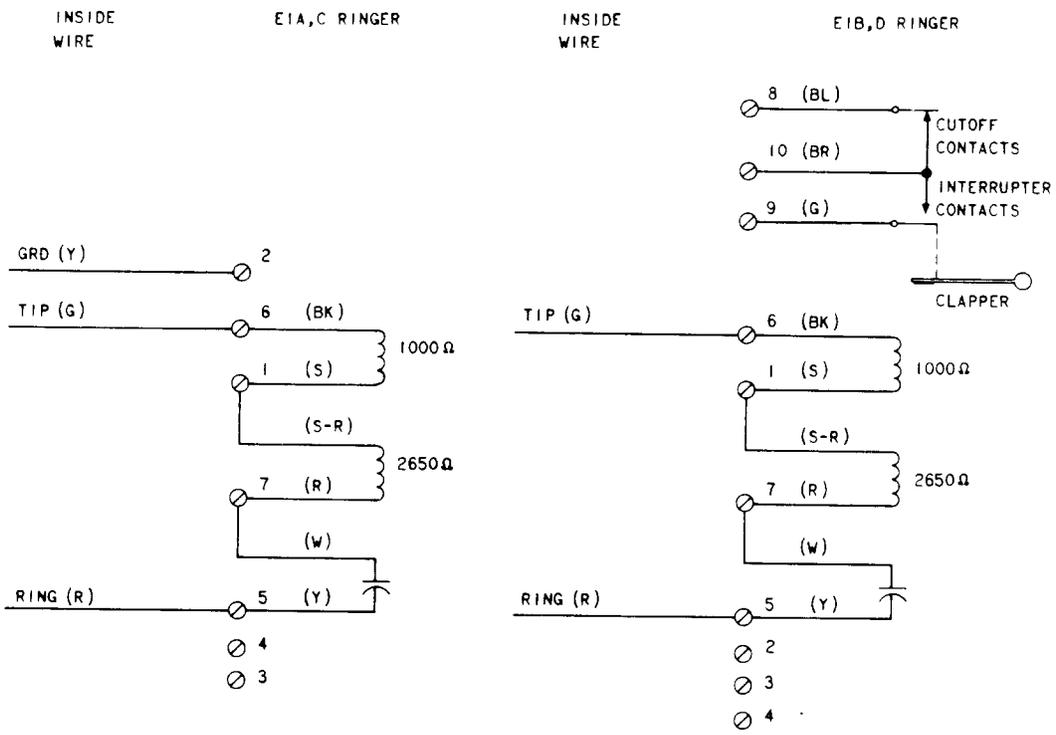
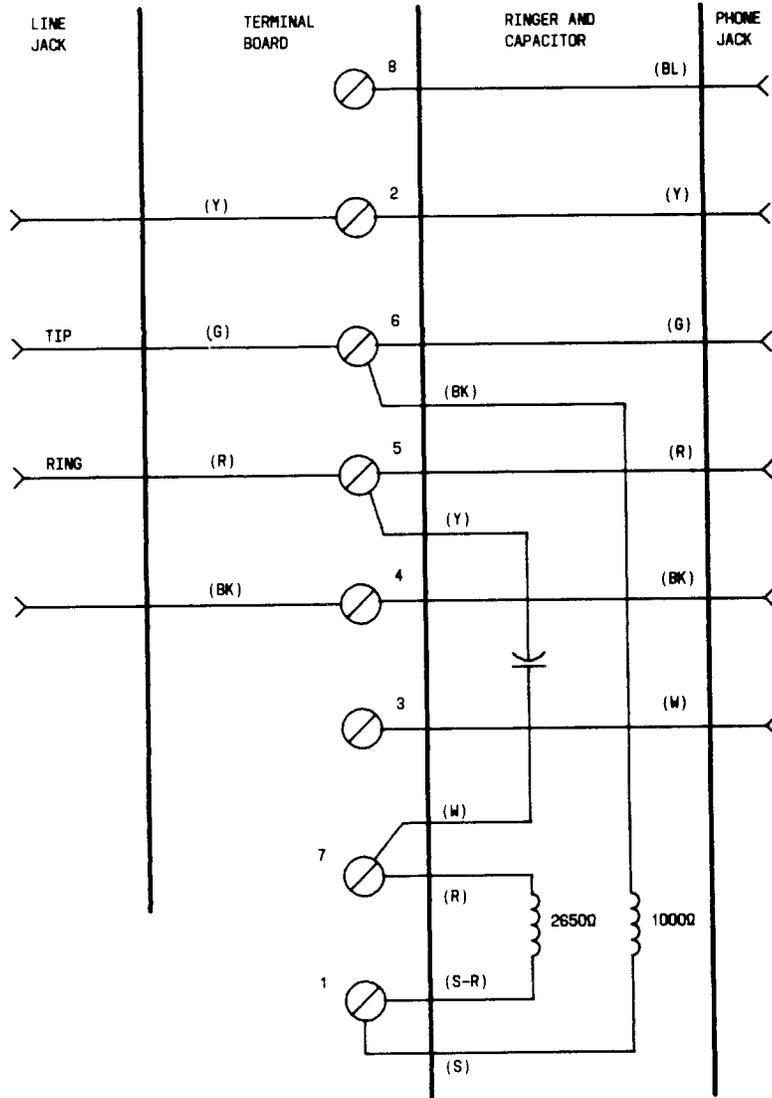

Fig. 8—E1-Type Ringer, Connections (Nonmodular)
Fig. 9—E1CM Ringer, Connections (Modular)
**4.01** Connections for nonmodular type ringers are shown in Fig. 8 and modular type ringer in Fig. 9.